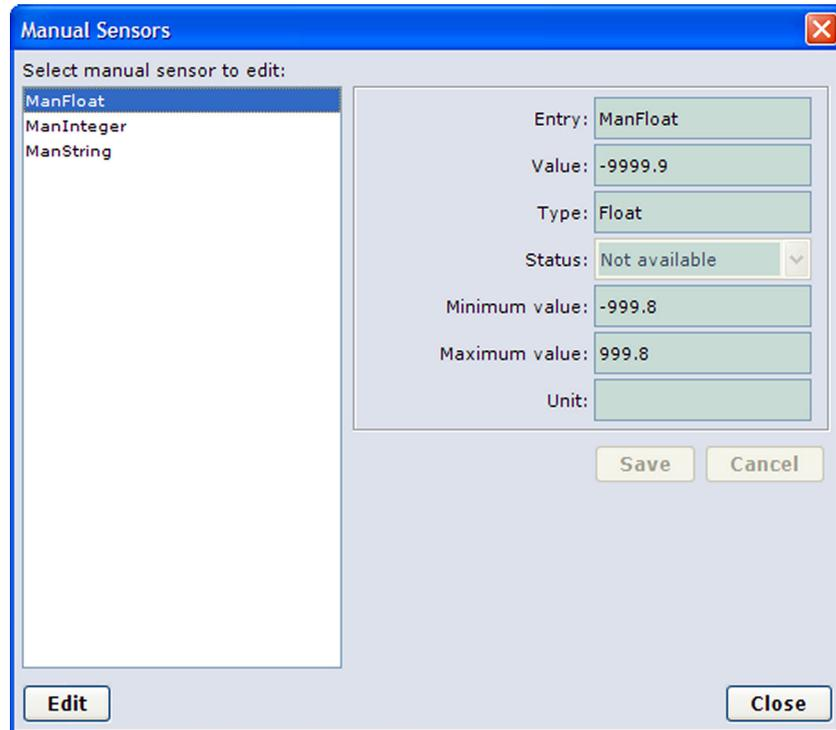

Figure 55 Manual Sensor Details
3. Select **Edit**. The information on the sensor is displayed as shown in Figure 55 on page 104.
1. On the **Settings** menu, select **Manual Sensors**. The list of configured manual sensors is displayed (see Figure 55 on page 104).